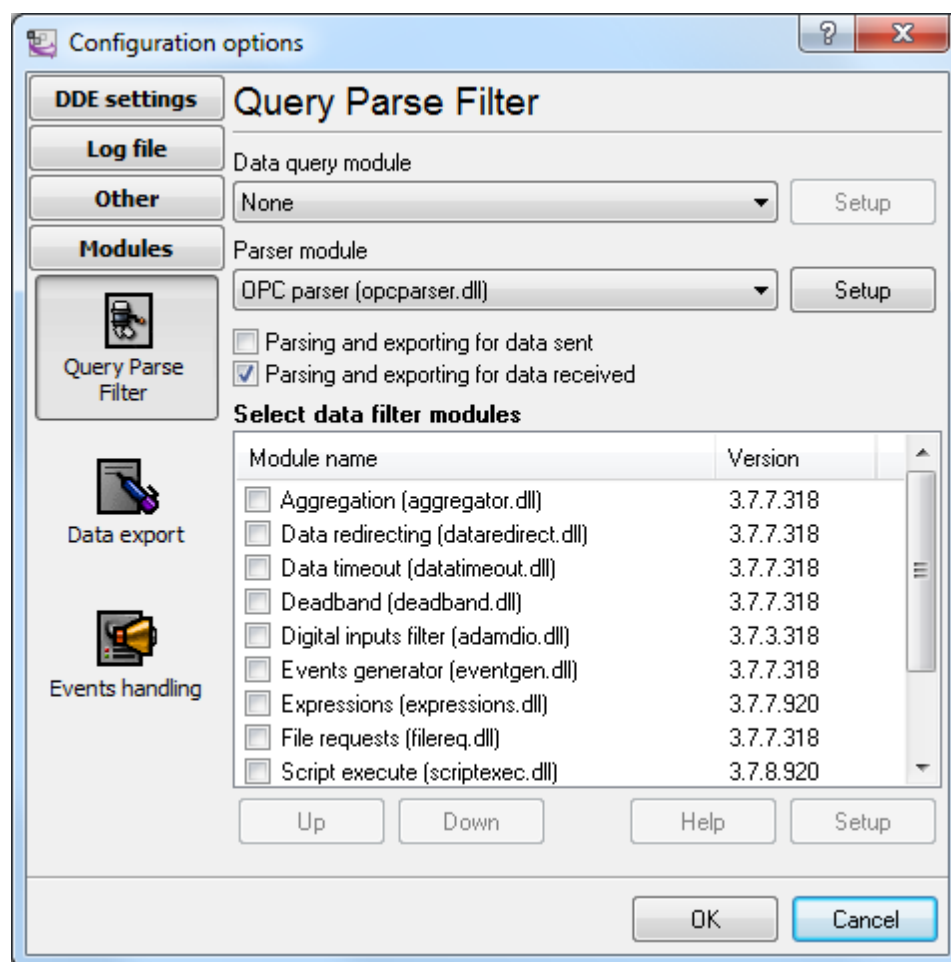

Fig. 4 Enabling the parser
5. Enable the parser for the data (fig. 4)